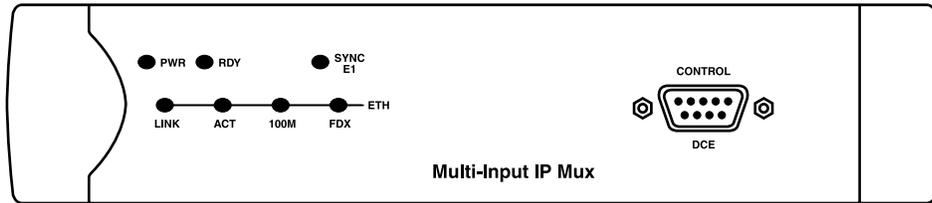
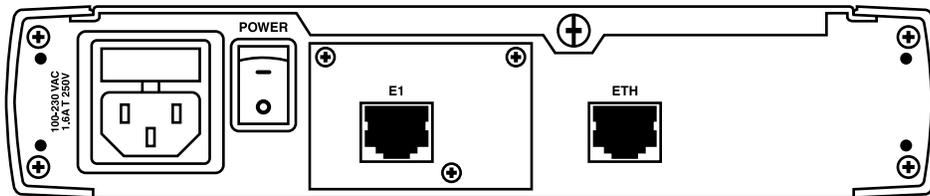
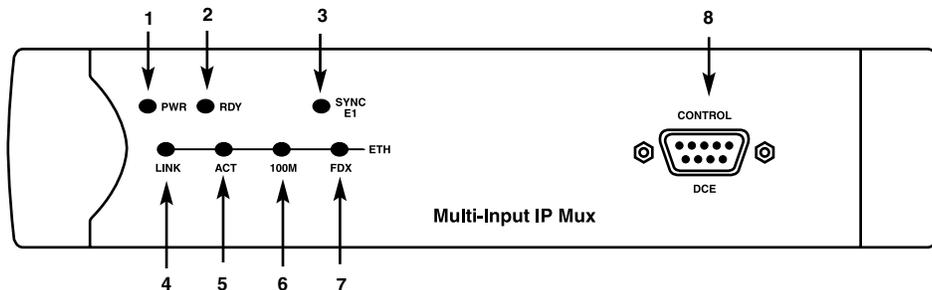

Figure 3-1. MT1050A-E1 or MT1050A-E1-CX front panel.
Figure 3-2. MT1050A or MT1050A-E1 rear panel.
Figure 4-1. MT1050A-E1 front-panel indicators.
Figures 3-1 through 3-8 show the front and rear panels for the different mux models.
The MT1050A front panel looks the same as Figure 3-1 except that it has a Sync T1 LED instead of a Sync E1 LED.
Interface connections are made from the mux’s rear panel, as shown in Figures 3-2, 3-4, 3-6, and 3-8. The control port is located on the mux’s front panel (Figures 3-1, 3-3, 3-5, and 3-7). Port pinouts are shown in Tables 3-1 through 3-4.
The MT1050A-E1 and MT1052A's LEDs (see Figures 4-1 through 4-4) are located on the left side of the front panel. Tables 4-1 and 4-2 describe the system indicators, connectors, and switches. Figures 3-1 through 3-8 illustrate the positions of the LEDs and connectors on the other mux models. The numbers in Figures 4-1 through 4-4 correspond to the "No." column in Tables 4-1 or 4-2.
2. Check the unit LED indicators, located on the left side of the front panel, for proper operation (see Figures 4-1 through 4-4 and Tables 4-1 and 4-2).